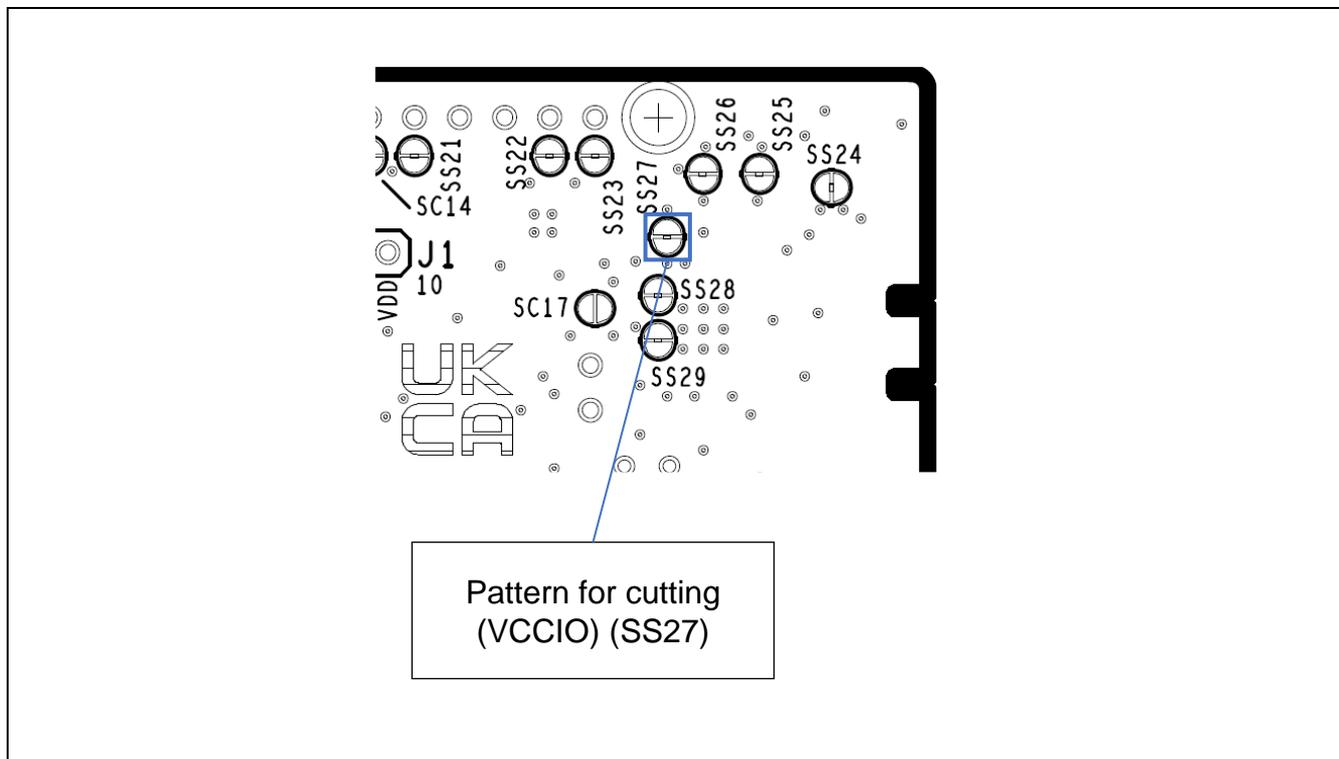

Figure 5-10 Position of the Pattern for Cutting (VCCIO) (SS27)
Insert an ammeter between the sockets of the current measurement header (J7) to measure the current. Cut the pattern for cutting (SS27) (Figure 5-10) and turn down the LED to reduce the current drawn with an MCU other than the evaluation MCU.
If you intend to use this board without connecting a USB connector, cut the given pattern for cutting (SS27). Figure 5-10 shows the position of the pattern for cutting.
4. If power to be supplied to this product other than via the USB, make J15 open-circuit and cut the pattern for cutting (VCCIO) (Figure 5-10).